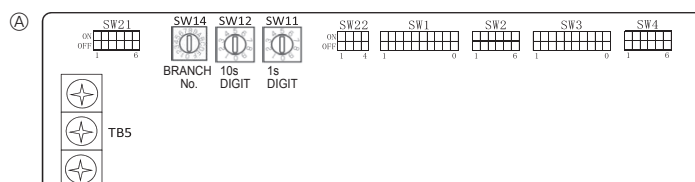

Fig. 5-9
- ③ Wireless remote controller (When installing wireless signal receiver)
- Ⓑ Terminal block for outdoor transmission cable (M1(A), M2(B), ⊕ (S))
5.5. Setting addresses (Fig. 5-9)
- ① How to set addresses
- ② How to set branch numbers SW14 (Series R2 only)
5.6. Switch setting for high ceiling or at the time of changing the number of air outlets (Fig. 5-9)
5.7. Sensing room temperature with the built-in sensor in a remote controller (Fig. 5-9)